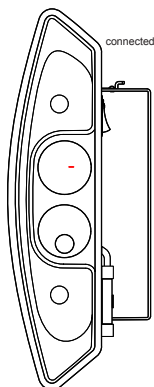

Figure 3
- With the knob completely turned to the left a horizontal line will be shown in the display, indicating that the appliance is connected (Fig. 3).